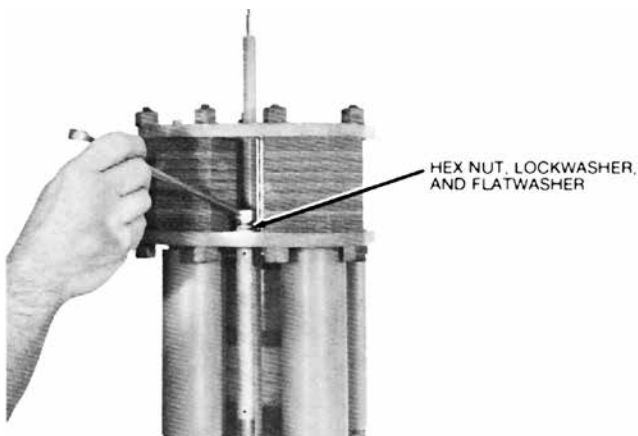

Figure 9. Removing hex nut and washers from center stringer
- B. Remove the hex nut, lockwasher, and flatwasher from the end of the center stringer (Figure 9).